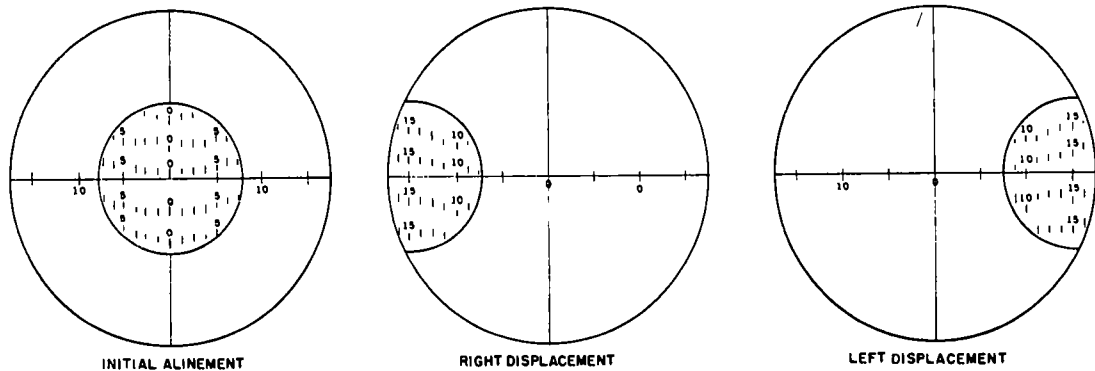

Figure 8.1. Gunners sight picture of collimator when correcting for displacement.
- (1) The collimator is emplaced in any convenient position, from 4 to 17 meters from the left side of the weapon. Best results are obtained from 5 to 12 meters.
- (2) While the howitzer is being laid, number 1 alines the optical system of the collimator on the center of the telescope rotating head and cross-levels the reticle pattern.
- (3) After the howitzer is laid the gunner directs number 1 in alining the 0 line of the collimator reticle with the vertical reticle of the panoramic telescope.
- (4) To lay for direction during firing, the gunner sets the announced deflection on the panoramic telescope and alines any number on the panoramic telescope reticle with the same number on the collimator reticle. This procedure for laying compensates for weapon displacement. See figure 8.1.
Page 25, Figure 8.1 is added as follows: